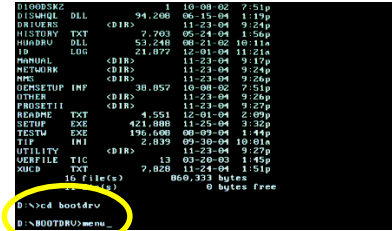

Fig.1
Step 1: Insert the prepared startup disk and motherboard driver CD-ROM in your system. Boot from the startup disk. Once at the A:\> prompt, change to the CD-ROM drive (example: D:\>). At the D:\> prompt, type the following two commands. Press ENTER after each command (Fig.1):